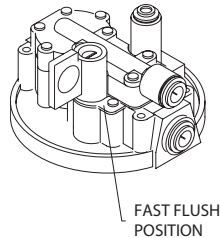
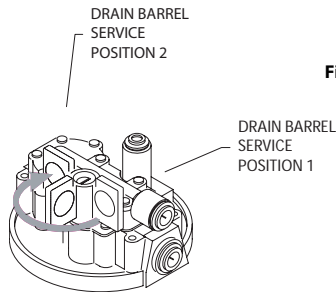

Figure 3
Figure 4
- Open the R.O. faucet and position the drain barrel in the fast flush position (see figure 3).
- Once the air has been purged from the system, position the drain barrel in 1 of the 2 service positions (see figure 4). The storage tank will continue to fill with water.
To drain the storage tank, open the R.O. faucet and let the water run until the flow turns into small drips. Close the R.O. faucet and rotate the drain barrel 90° to the fast flush position (see figure 3). The sound of rushing water should now be heard. Allow the system to fast flush for 5 to 7 minutes and then rotate the drain barrel to position #2 (see figure 4).